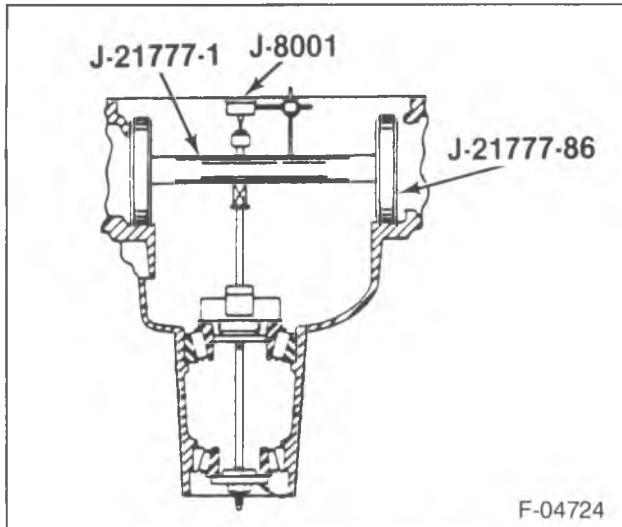

Figure 12—Pinion Depth Tools
- Assemble J 21777-86, J 21777-1 Arbor, and J 8001 to the differential bearing bore as shown in figure 12.